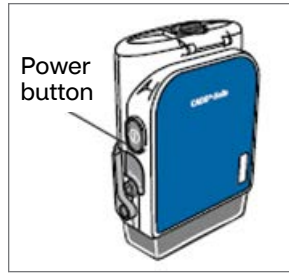

Figure 1: Power button
1. Press and hold the power button until you hear one beep. Release the button. See Figure 1.